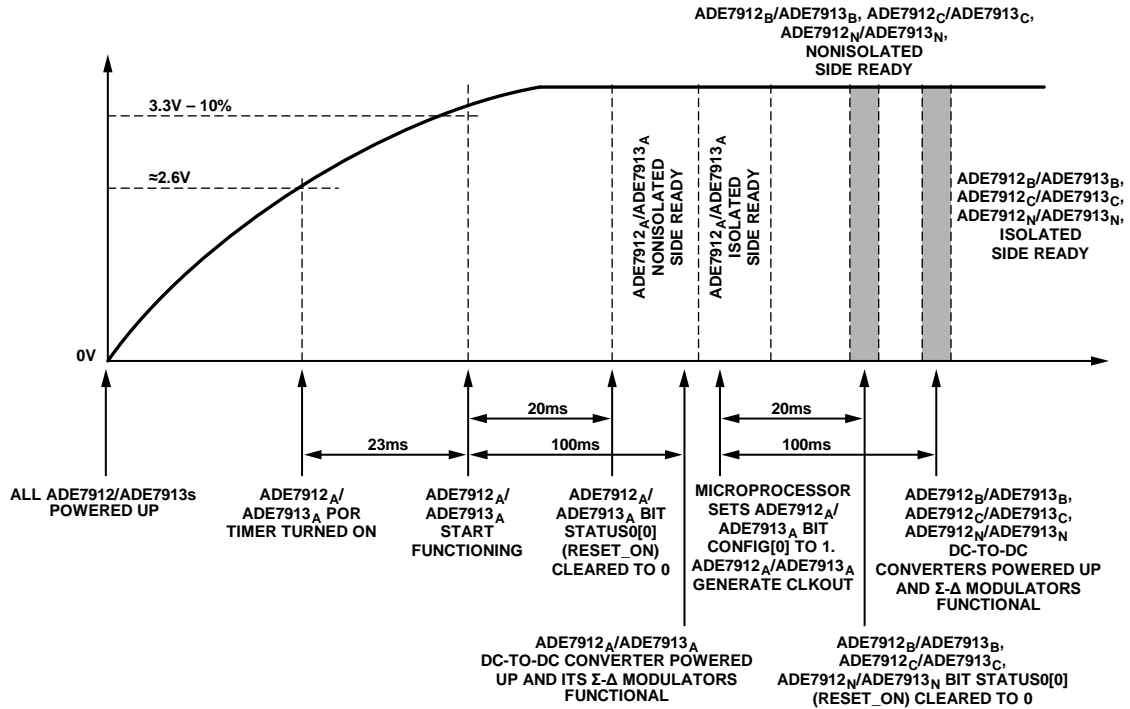

Figure 52. Power-Up Procedure for Systems with Multiple ADE7912/ADE7913 Devices; Only Phase A ADE7912/ADE7913 Are Clocked from a Crystal
For the polyphase energy meters shown in Figure 34, Figure 36, and Figure 37, in which one single crystal is used, the power-up procedure is as follows (see Figure 52):
1. Supply VDD to the ADE7912/ADE7913 devices. To ensure that the Phase A ADE7912/ADE7913 (labeled ADE7912A/ADE7913A in Figure 52) device starts functioning correctly, the supply must reach 3.3 V – 10% in less than 23 ms from approximately a 2.6 V level. The ADE7912A/ADE7913A device is clocked by the 4.096 MHz crystal and starts functioning. The other ADE7912/ADE7913 devices are not clocked yet.
8. Initialize the CONFIG register of all remaining ADE7912/ADE7913 devices. Select one ADE7912/ADE7913 device (Phase C ADE7912/ADE7913 in Figure 34, Figure 36, and Figure 37 examples; labeled ADE7912C/ADE7913C in Figure 52) and connect its CLKOUT/DREADY pin to an external interrupt I/O pin of the microcontroller. ADE7912C/ADE7913C must have Bit 0 (CLKOUT\_EN) in the CONFIG register left at the default value of 0 to use the DREADY functionality of the CLKOUT/DREADY pin.